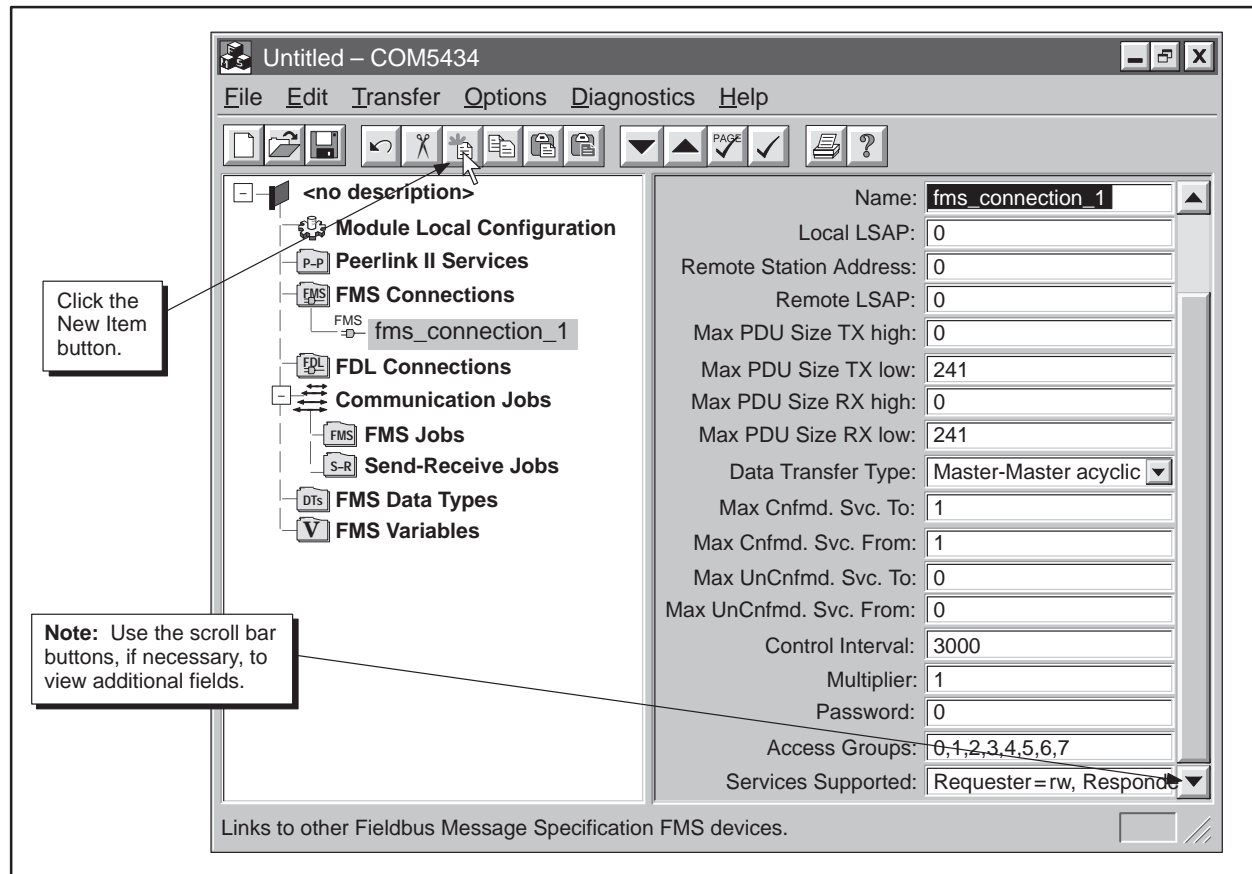

Figure 5-13 Defining FMS Connections
2. Click on the New Item button on the toolbar. An FMS connection appears in the configuration tree and the input fields change (see Figure 5-13).